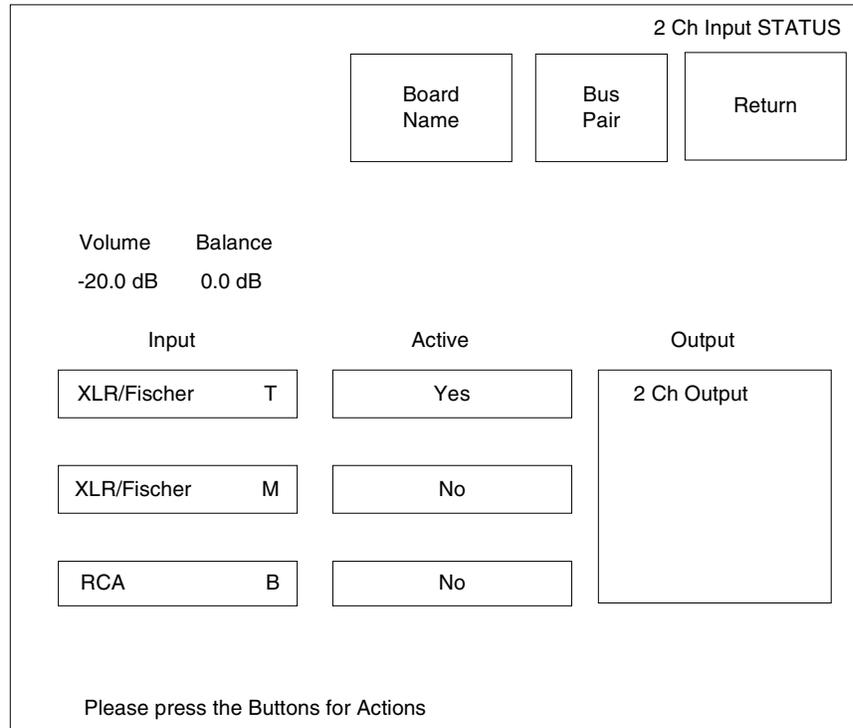

Figure 11: Reference Input Menu Screen
- The *input* group allows you to select any one of the three inputs. As shown in figure 11, the top balanced input is active. This is the default channel selection on power up. Selecting a box under the *active* column will activate the channel to the left.